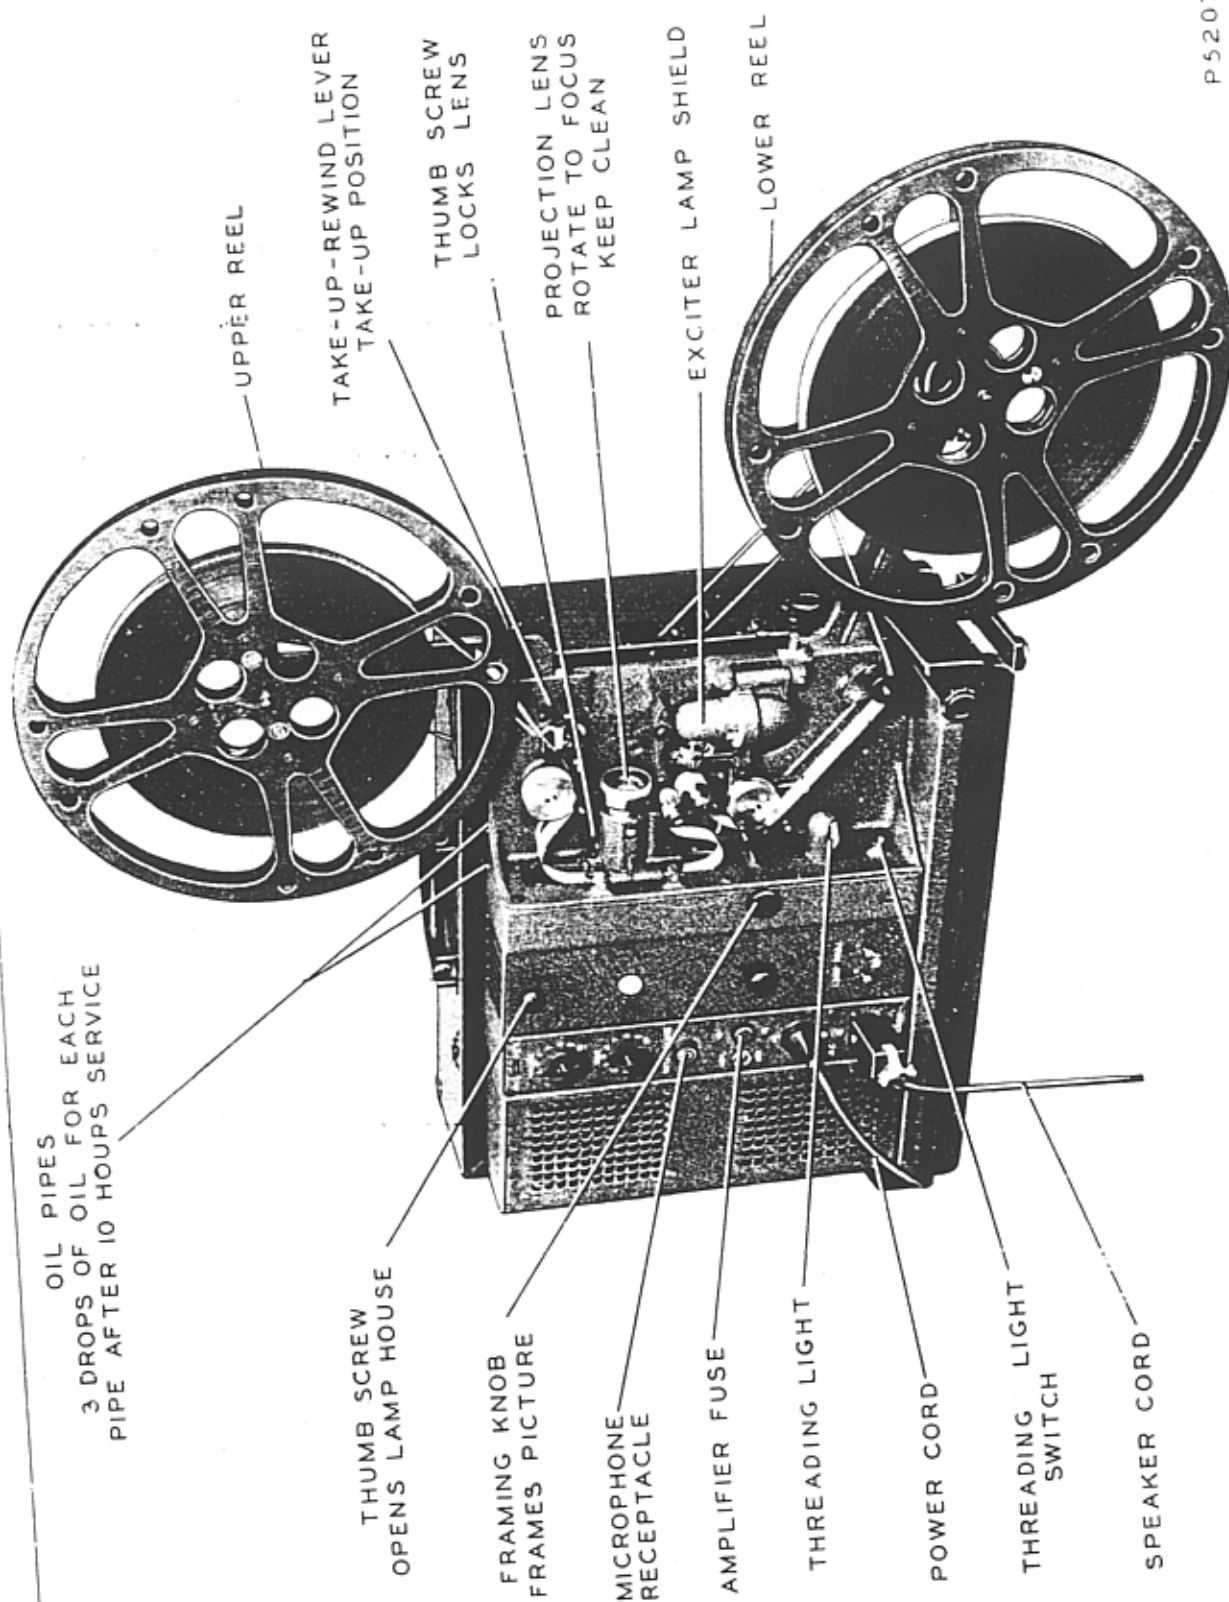
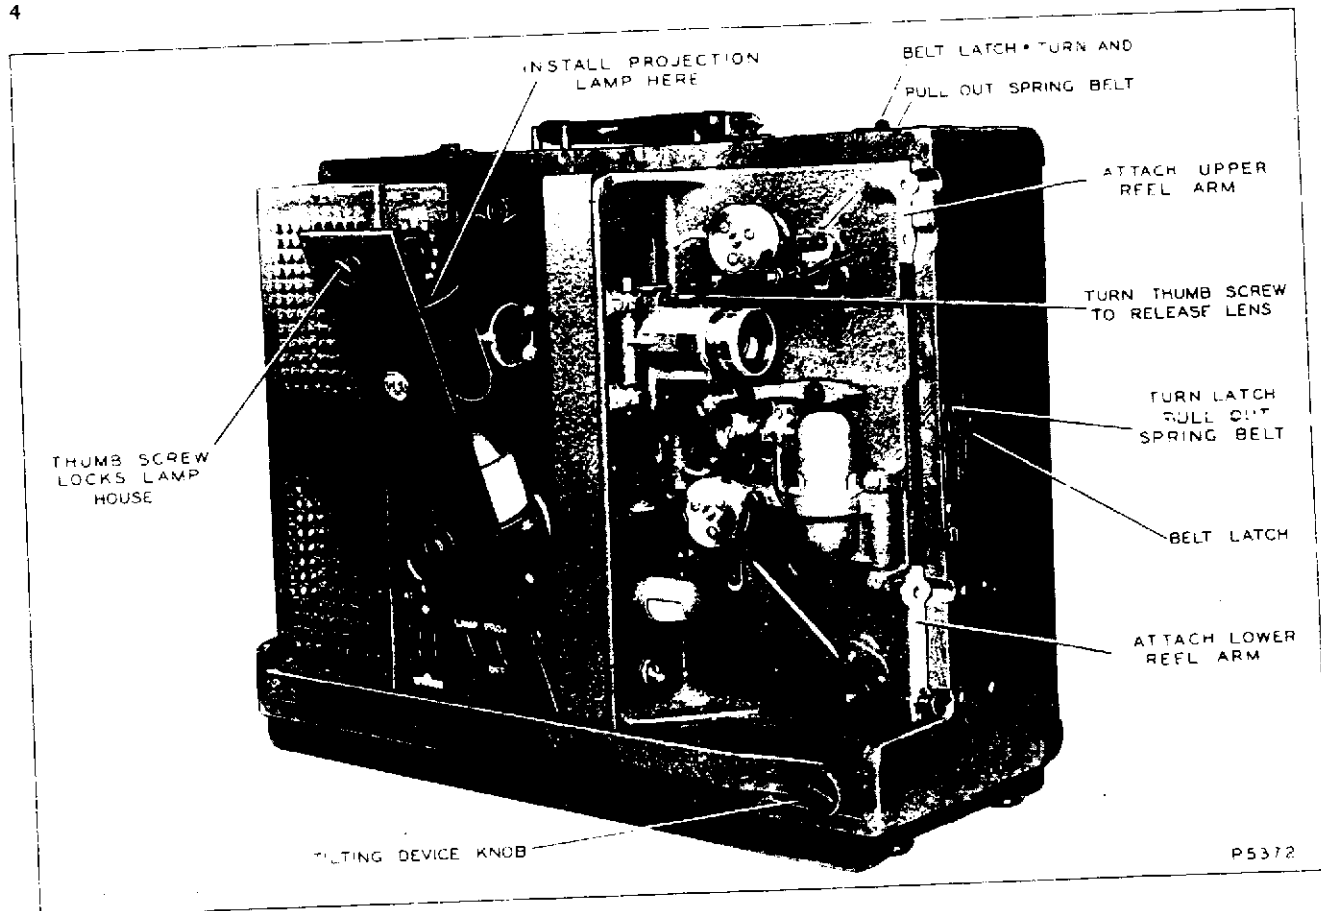

Figure 2—Projector Ready for Operation
Figure 4—Setting Up Projector
5. Open the lamp house (fig. 2) and insert the projection lamp in the socket attached to the lamp-house door (fig. 4). Line up the wide and the narrow flanges on the base of the lamp with the corresponding recesses in the socket. Press down firmly on the lamp and turn it clockwise (about 90°) until it locks in place. Avoid getting fingerprints on the clear portions of the lamp for they will burn into the glass and permanently mar the lamp. Close the lamp-house door and lock it with the thumbscrew.
6. Attach the reel arms to the frame of the projector where shown in figure 4. (They fit in only one way.) Lock them with the captive thumbscrews. Turn the latches that hold the spring belts inside the projector case, pull out the belts (fig. 4), and put them over their respective reel pulleys. Put the empty reel on the lower reel arm, moving the projector forward until the reel clears the front
c. Shift the projector sideways until the light beam points to the screen and turn the tilting-device knob (fig. 4) until the beam centers on the screen in the vertical direction.
d. Release the lens by turning the thumb-screw (fig. 2) on top of the lens holder. Focus the projector, first by sliding the lens back and forth in its holder and then by rotating it until the edges of the lighted area on the screen are as sharp as possible. Turn off the LAMP and PROJ. switches.
c. Frame the picture, if necessary, by turning the knob marked **FRAME** (fig. 2).
13. Just before putting the projector into operation for the first time, or after it has stood idle for a period of 30 days or more, put two or three drops of the MI-1331 oil supplied with the machine into each of the two oil pipes terminating on top of the projector frame (fig. 2). When operating the projector continually, put this amount of oil into each pipe every 10 hours of operation, or more frequently if inspection indicates the need of lubrication. Do not use too much oil, for the excess may reach the optical or the film-carrying surfaces of the machine, where it would cause picture blurring and sound distortion.
(7) In a similar manner clean the reflector mounted opposite the condenser lens.
(8) Take out and clean the projection lamp. Leave no fingerprints on the clear areas of the lamp.
(9) Remove the projection lens from its holder and brush off any dust with a camel's-hair brush. If necessary to clean the lens more thoroughly, follow the directions given in b(6) above. Be especially careful **not to leave any dust or lint** on the lens surfaces. Replace the lens in its holder and secure it with the thumbscrew (fig. 2).
(10) Open the optical bracket and swing it out of the way. Remove the exciter-lamp cover. With a camel's-hair brush remove all dust and lint from the photocell, the optical mirror, and the two small lenses on the optical unit. Be very careful with the mirror, for it may be dislodged by rough handling.
(11) Remove the exciter lamp and clean it in the same manner as the projection lamp. Put the cover on the exciter lamp and fasten the sound optical bracket in its original place.